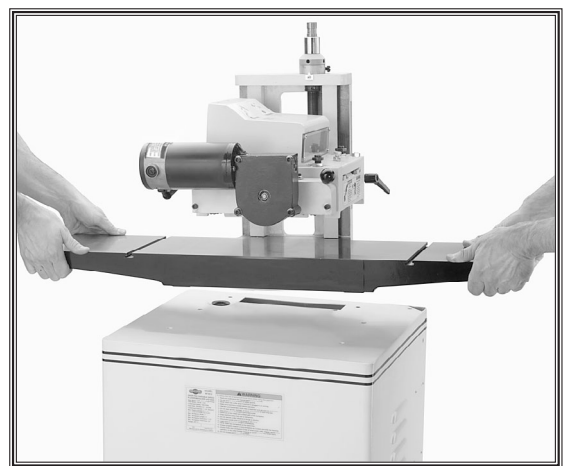

Figure 8. Suggested lifting locations.
5. With the help of an assistant, lift the planer/moulder headstock and position it onto the cabinet, as shown in **Figure 8**.